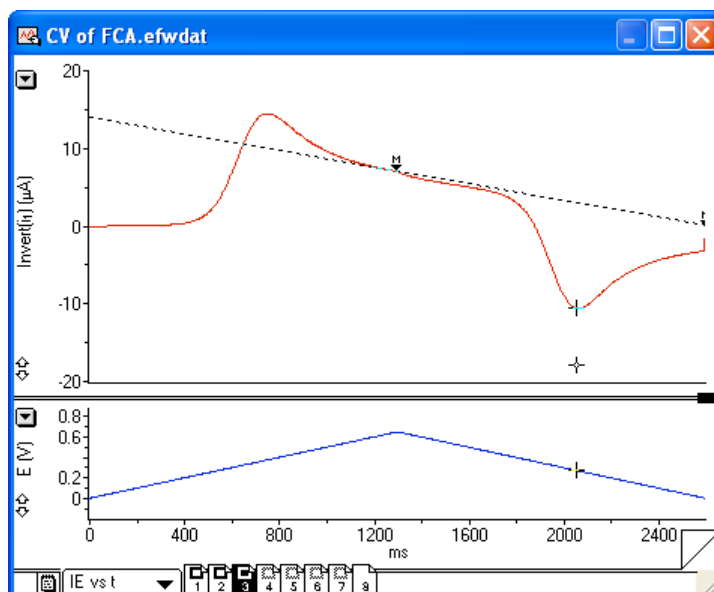

Figure 6.2 Setting the baseline for i_p^{Red} in IE v t view
- 6.3.2** To measure the peak reduction current (i_p^{Red}) drag an initial marker onto the current channel at the time where the reduction scan starts. Press Control-Alt (Command-Option for Macintosh) and drag a second marker onto the CV that is independent of the waveform. Adjust the second marker so the tie line forms a tangent with the initial current slope during the oxidising sweep. See **Figure 6.2** for an example. Use the cursor to measure the peak current relative to the baseline and tabulate in **Table 7.1**. Repeat for each CV.